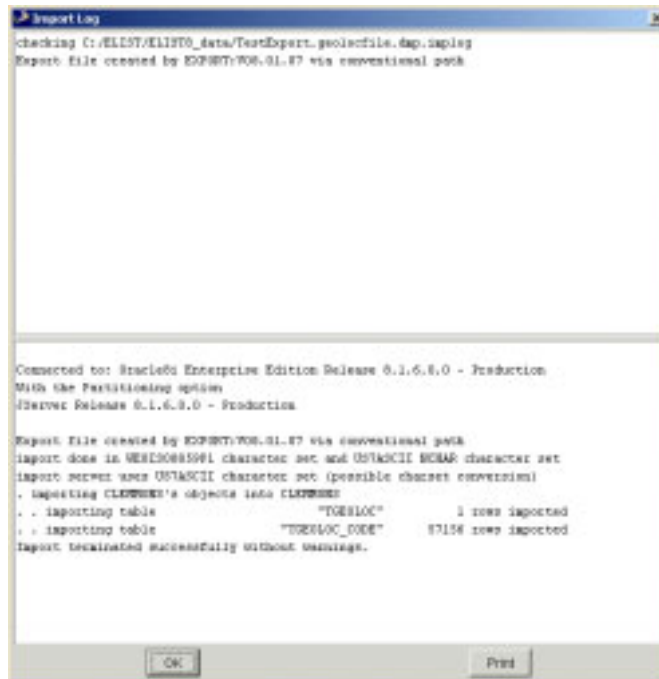

Figure 5.177 Import Log Window
- To import the ELIST-format GEOLOC file, click OK. After a moment, the file is imported and the Import Log window opens (Figure 5.177).